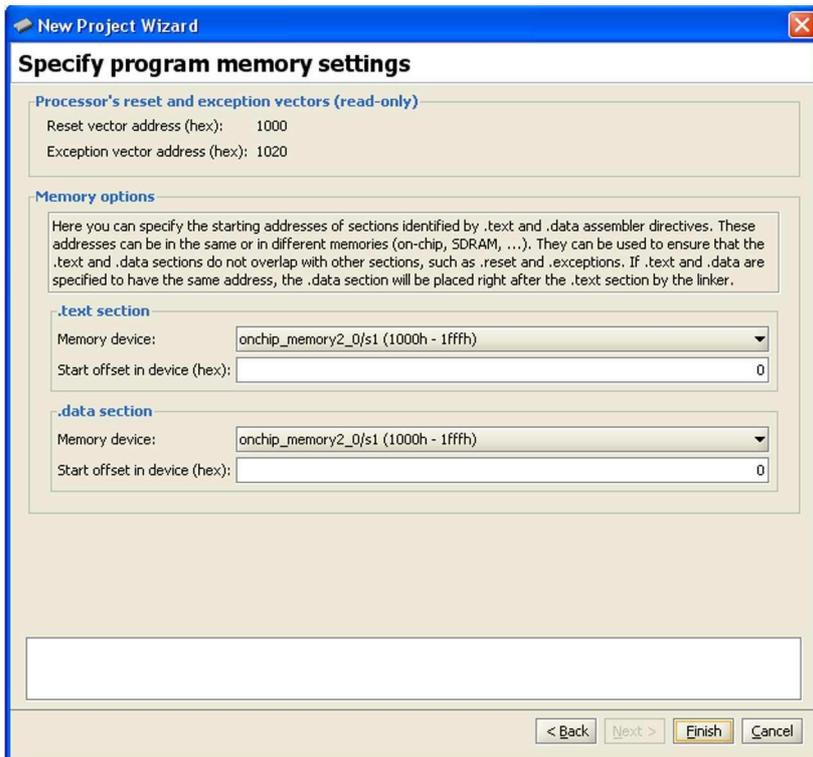

Figure 25. The program memory settings window.
10. The Altera Monitor Program also needs to know where to load the application program. In our case, this is the memory block in the FPGA device. The SOPC Builder assigned the name **onchip_memory2_0** to this block. As shown in Figure 25, the Monitor Program has already selected the correct memory device.
An application program written in the C language can be handled in the same way as the assembly-language program. A C program that implements our simple task is given in Figure 25. Enter this code into a file called `lights.c`.